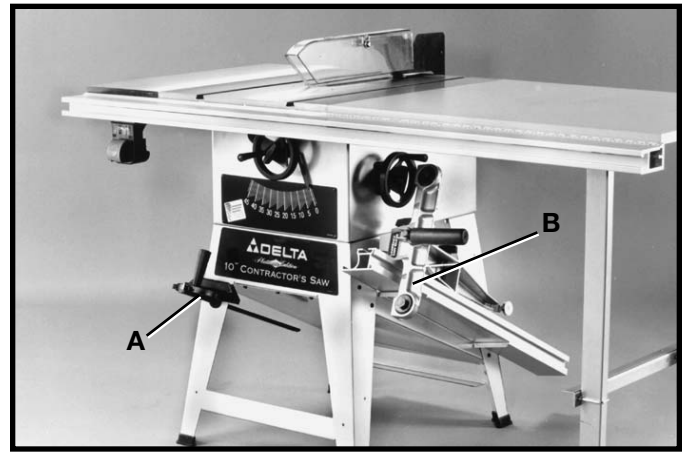

Fig. 108
1. When not in use, the miter gage (A) Fig. 108, can be stored through the hole located at the front side of the stand as shown.
2. The rip fence (B) Fig. 108, can be conveniently stored out-of-the-way on the stamped ledges on the right side of the saw stand.